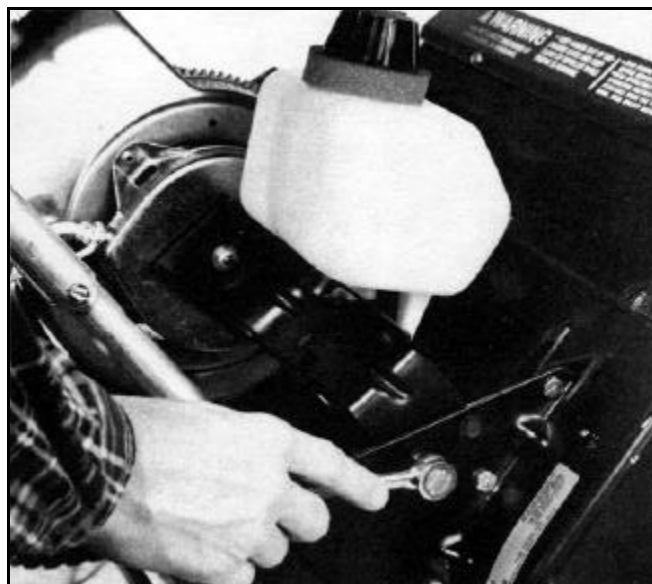

Figure 41 0217-024
2. Install the engine mounting bracket that supports the engine on the starter housing side. Loosely install the starter housing nut (Figure 41). Tighten the engine mounting bracket to the frame.